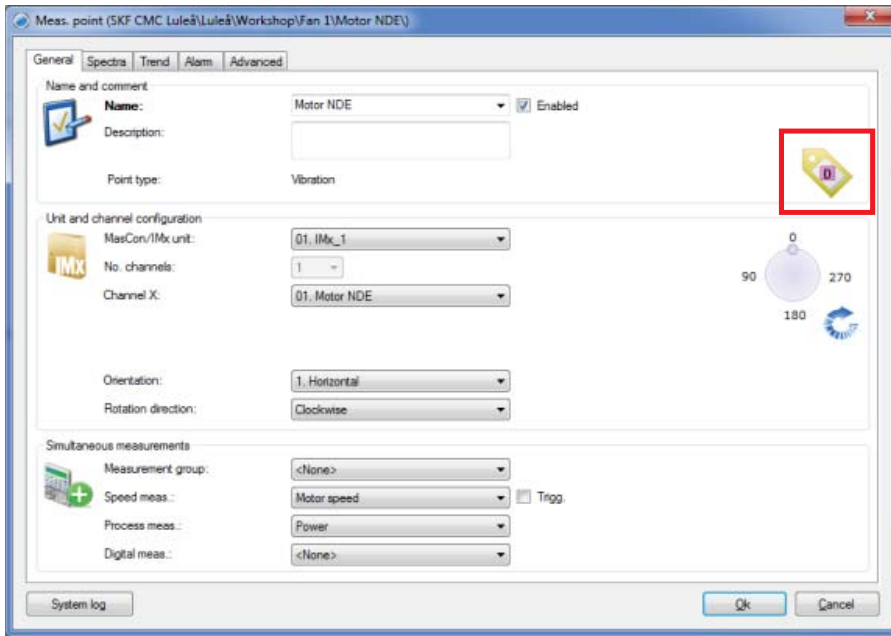

Fig. 7. The new tag is now visible in the measurement point window.
- 6 Fig. 7 shows the added tag to the measurement point.